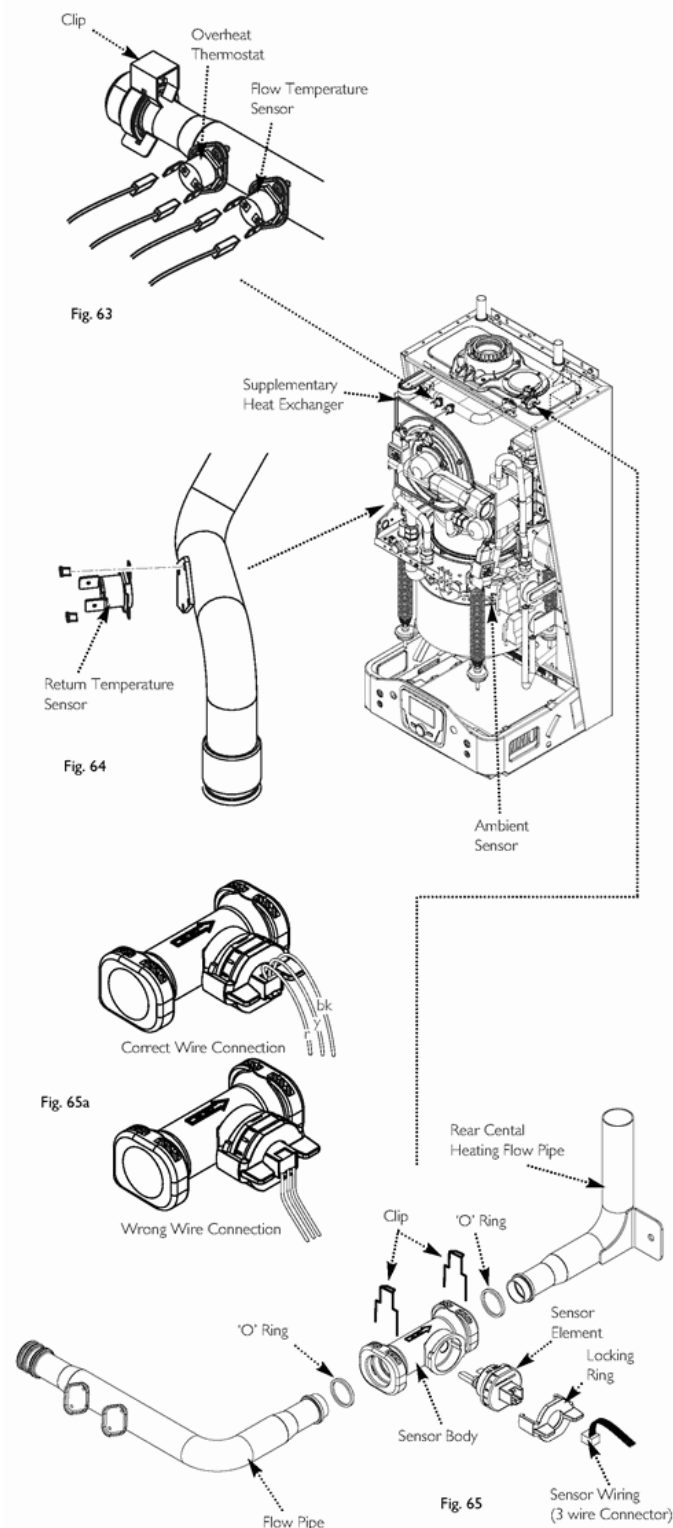

Fig. 63 - Fig. 65
14.11 Central Heating Flow & Return Temperature Sensors (Figs. 63 & 64)
14.12 Overheat Thermostat (Fig. 63)
- a) Disconnect the four wires on the temperature sensors (Fig. 63).
- b) Remove the three pipe clips. One near the heat exchanger and two on the body flow sensor (Figs. 63 & 65).